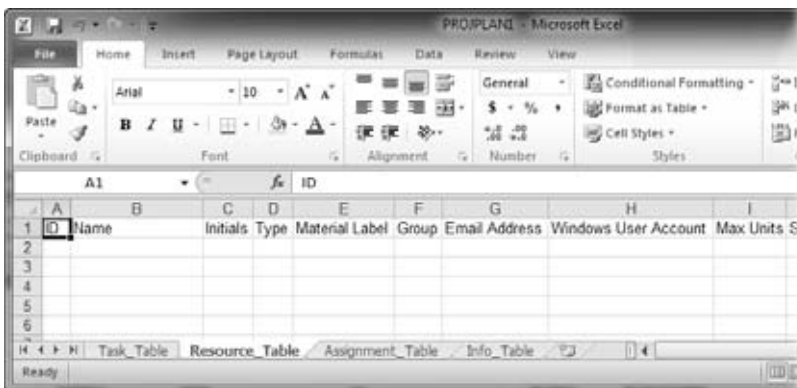

Figure 8-4:
3. At the bottom of the Excel window, select the Resource_Table tab, shown in Figure 8-4.